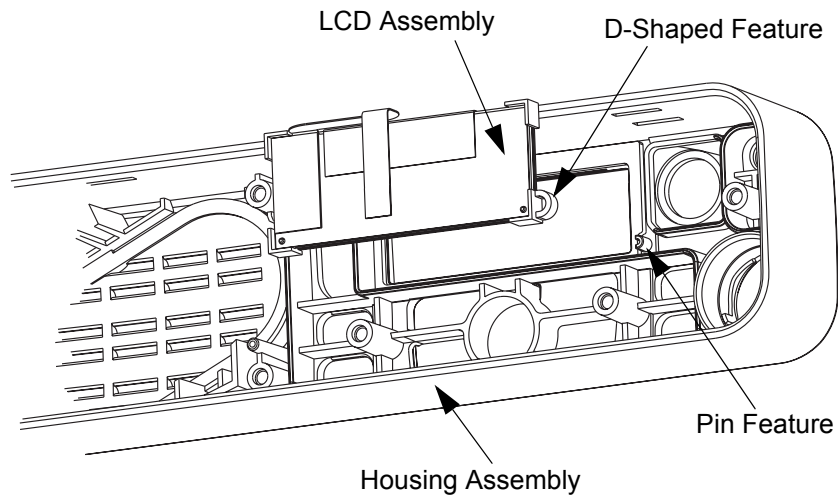

Figure 5-21 LCD Display Placement
1. Place the LCD display inside the control head housing, making sure to align the D-shaped feature on the LCD display with the pin feature on the housing. Refer to Figure 5-21.